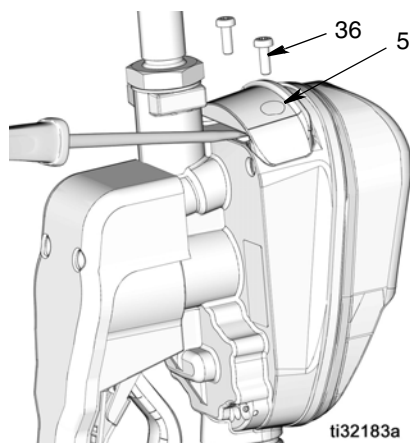

FIG. 47
1. Remove screws (36) from the battery compartment cover (5).
2. Use a small, flat screwdriver to gently pry the cover away from the metered dispense valve housing on the bottom side of the cover, near the extension attachment as shown in FIG. 47.